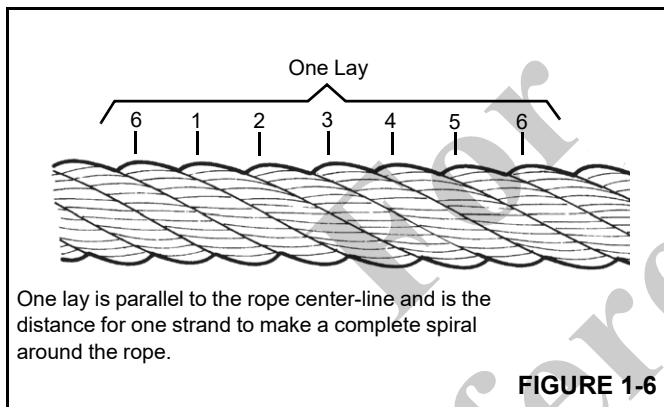

FIGURE 1-6
- In running ropes, six randomly distributed broken wires in one lay or three broken wires in one strand in one lay (Figure 1-6).